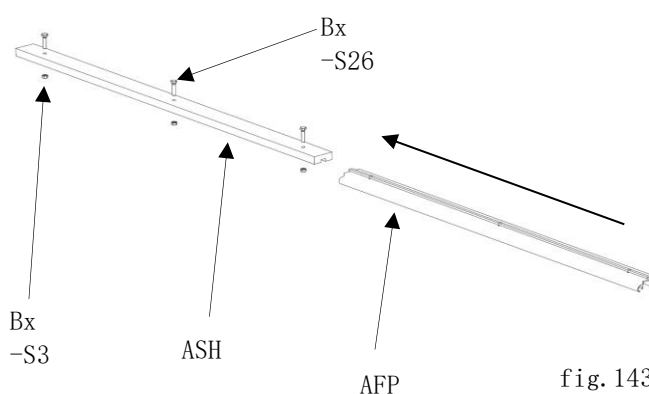

fig. 143
- the PE spacer (item ASH) and the profile of the side window (item AFP) are loosely screwed together with 3x hexagon screws (item S26) and 3x hexagon nuts (item S3) so that the hexagon screw heads can later be pushed into the door track groove. (fig. 143)